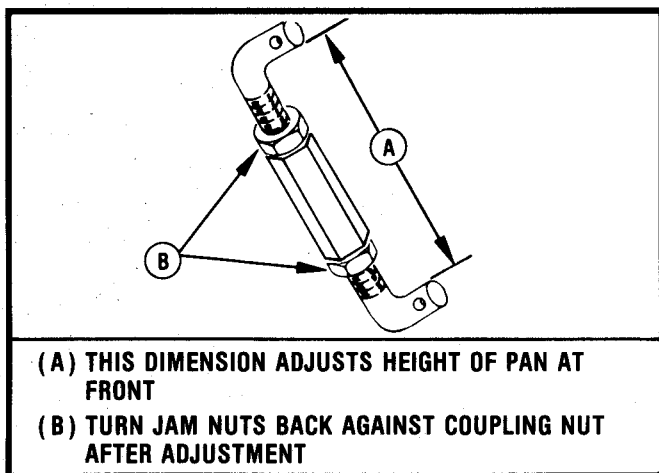

FIGURE 12-7
- Adjust the jam nuts to allow movement of the coupling nut. By turning the two front lift links, to maintain equal threading into the coupling nut, the length of the complete front lift link may be extended or decreased. See Figure 12-7. Turn links "IN" for shorter dimension to raise mower and mower blade. Turn "OUT" to lower.
lower jam nuts. Adjust each side of the assembly equally. Refer to Figure 12-7. Retighten the jam nuts to secure the assembly together. The blade pitch, as described in "GENERAL" section of "ADJUSTMENTS/MAINTENANCE", must be maintained.